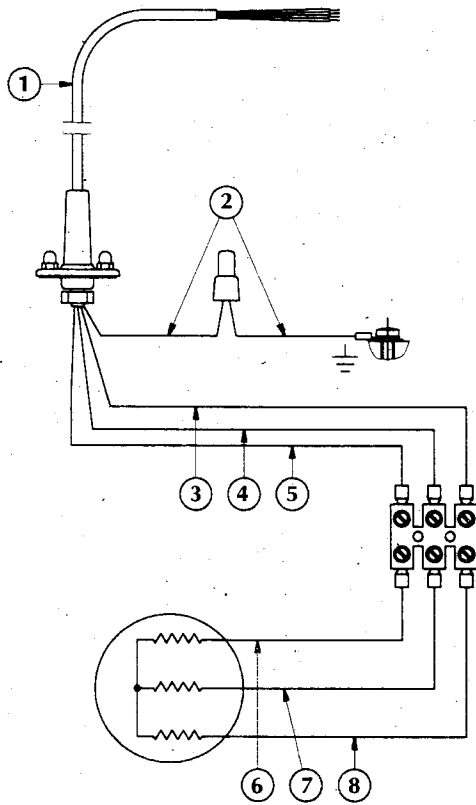

fig. 5 - Abb. 5 - fig. 5 - kuva 5 - afb. 5 - fig. 5 - εικ. 5
15.5. SCHEMA ELETTICO ELETTROPOMPA TRIFASE (fig. 5)
15.5. WIRING DIAGRAM FOR THREE-PHASE ELECTROPUMP (fig. 5)
15.5. SCHEMA ELECTRIQUE ELECTROPOMPE TRIPHASEE (fig. 5)
15.5. SCHALTPLAN DREIPHASIGE ELEKTROPUMPE (Abb. 5)
15.5. ESQUEMA ELECTRICO ELECTROBOMBA TRIFASICA (fig. 5)
15.5. KRETSSCHEMA FÖR TREFAS ELPUMP (fig. 5)
15.5. LEDNINGSDIAGRAM FOR TREFASET ELEKTROPUMPE (fig. 5)
15.5. ELEKTRISCHE SCHEMA DRIEFASE ELEKTROPOMP (afb. 5)
15.5. ESQUEMA ELÉCTRICO DA BOMBA TRIFÁSICA (fig. 5)